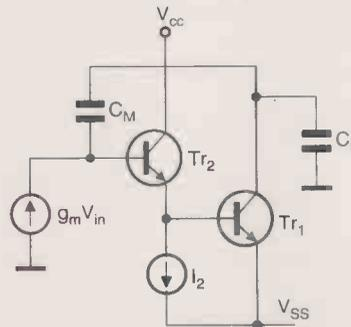

Fig. 9. Here is the n-p-n side of a typical output stage using a Darlington to increase current gain. This configuration needs a supply of at least 1.6V.
**Darlington output stage.** In order to increase the current-gain of the common-emitter output stage, an emitter-follower can be added, as seen in Fig. 9, to realise a Darlington output stage.